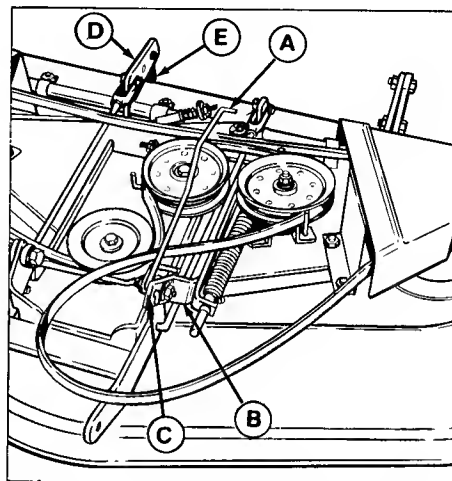

Figure 1. PTO Rod Connection - 42" Mower Shown
If there are two holes in the mower lift bracket (D, figure 1), make sure the chain (E) is connected to the rear hole.
2. The PTO rod must be attached to mower PTO arm before sliding mower under tractor. Insert the end of the PTO rod from the right-hand side and work the "S" bend around until rod (A, figure 1) appears as shown.